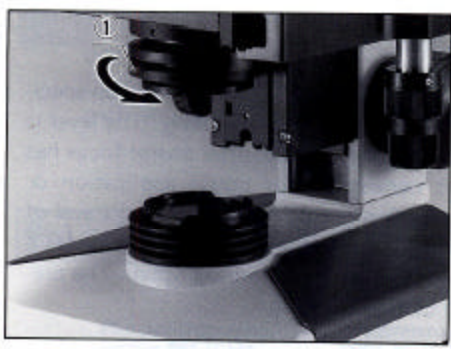

Fig. 22
- 1) Turning the diaphragm lever ① counterclockwise reduces the diaphragm opening. (Fig. 22)